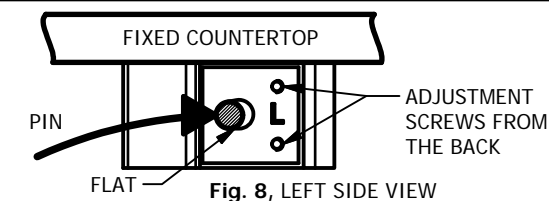

Fig. 8, LEFT SIDE VIEW
NOTE: Verify receiver is in the proper orientation. (Fig. 8)
-Check for proper pin alignment. Both the left and right pins should automatically engage when countertop is moved into upright position. Adjust as necessary using the adjustment screws. (Fig. 8)